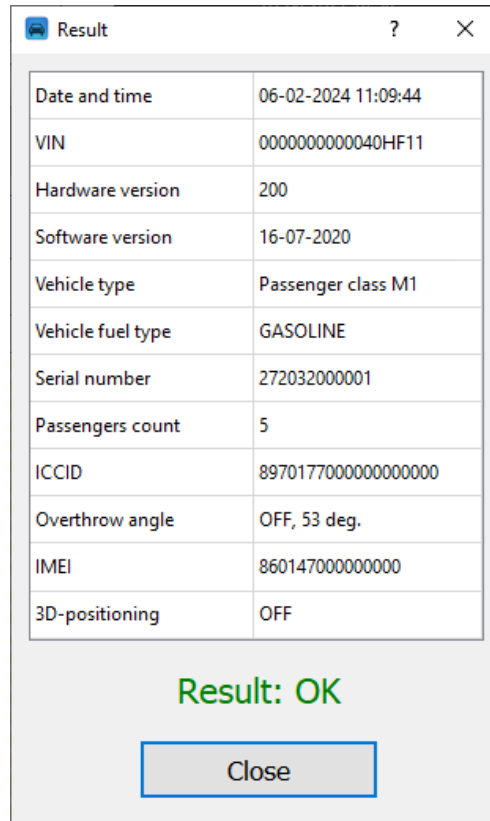

Figure 8 – «Result» window
- wait until the parameters reading is completed and the «Result» window is displayed (Figure 8);